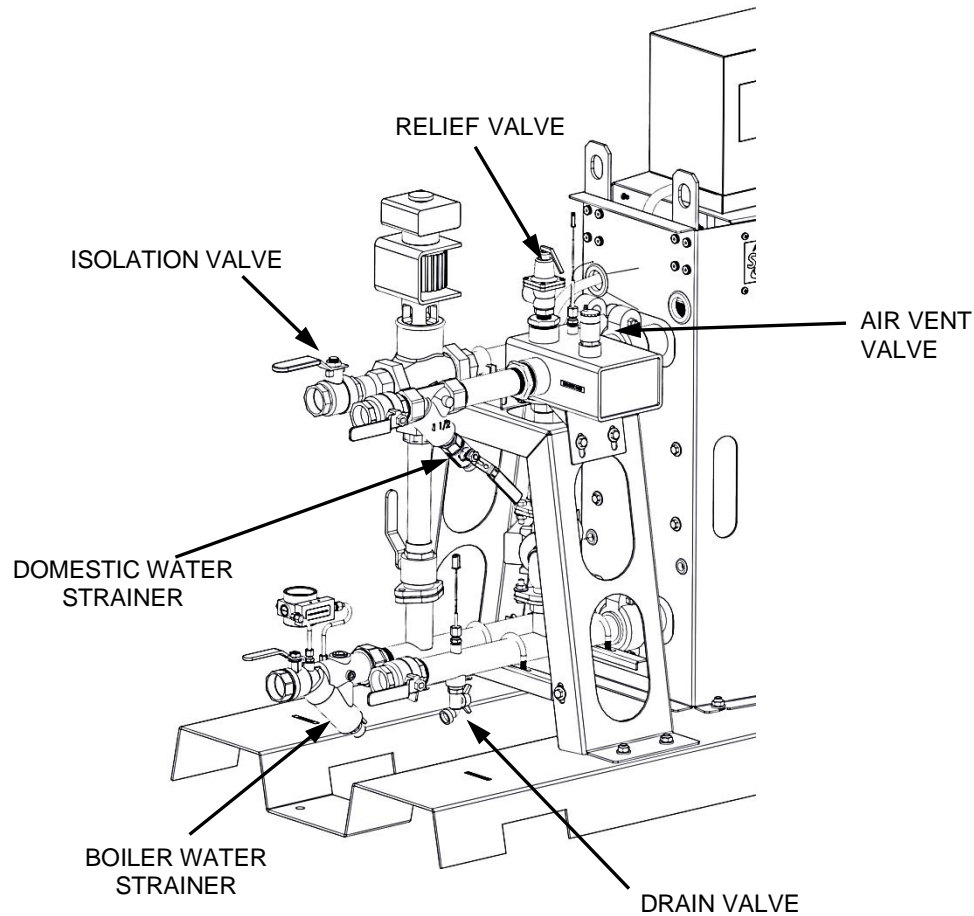

Figure 8-2. Draining the SmartPlate Water Heater
3. Connect a hose to the Strainer on the Boiler Water side of the piping assembly (Figure 8-2). Open the valve on the Strainer and drain the boiler water from the unit. It will be necessary to loosen a Victaulic coupling by the heat exchanger to allow air into the pipe during draining.